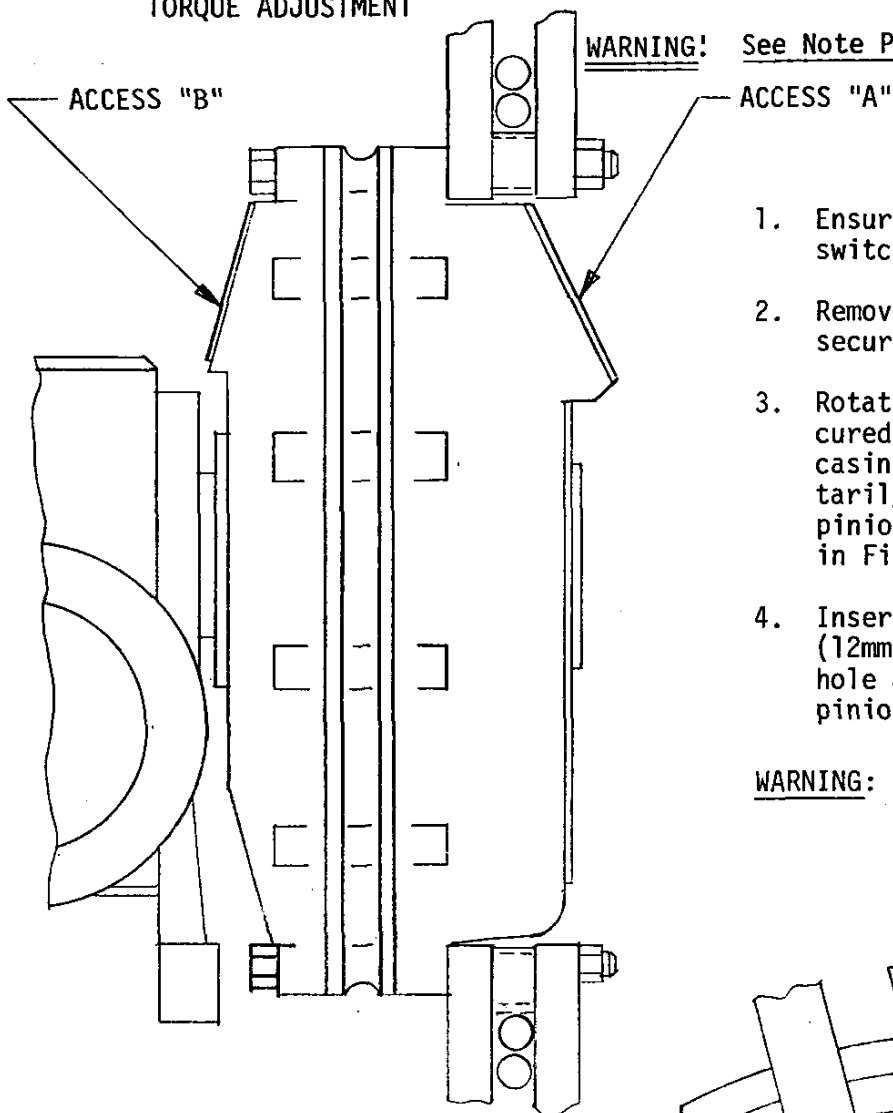

FIG. 3
2. Remove access cover "A" which is secured by five screws (Fig. 3).